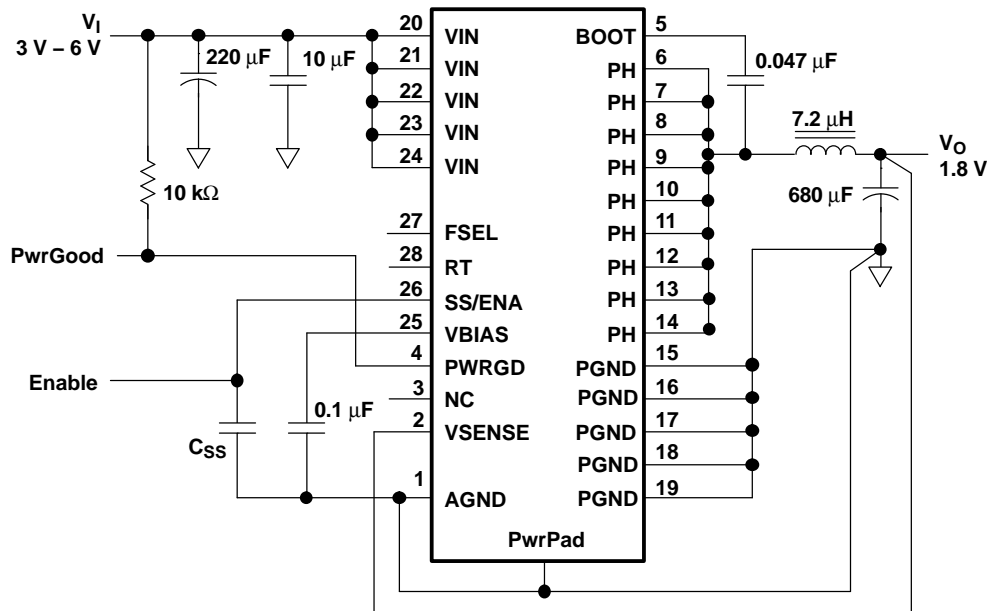

Figure 10. Application Circuit
(1) Specified by design
(2) Tested using circuit in Figure 10.
(3) To ensure proper operation when the RC filter is used between the external clock and the FSEL pin, the recommended values are $R \leq 1\text{ k}\Omega$ and $C \leq 120\text{ pF}$.
Figure 10 shows the schematic diagram for a typical TPS54614 application. The TPS54614 (U1) can provide greater than 6 A of output current at a nominal output voltage of 1.8 V. For proper operation, the exposed thermal PowerPAD underneath the integrated circuit package needs to be soldered to the printed-circuit board.